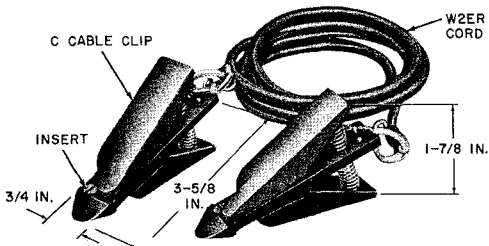

Fig. 1 — B Transfer Cord
2.01 The B Transfer Cord (Fig. 1) consists of a W2ER Cord which is equipped with a C Cable Clip on each end. The W2ER Cord is 6 feet long.